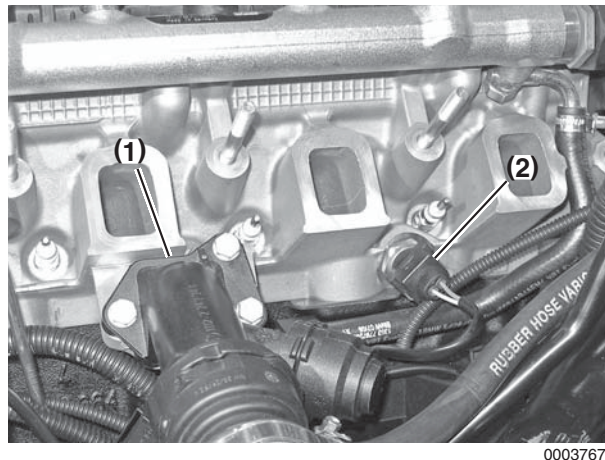

Figure 5-42
11. Connect harness connector to temperature sensor (Figure 5-42, (2)).
12. Install coolant branch fitting (Figure 5-42, (1)) with a new seal and tighten bolts.